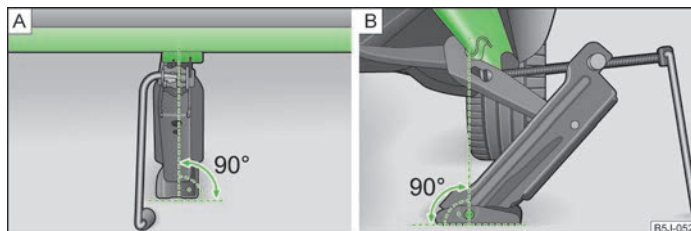

Fig. 135 Attach lifting jack
- Align the lifting jack so that its claw grasps the web » Fig. 135 - below the embossing in the side surface of the lower sill.
- Ensure that the entire surface of the lifting jack base plate rests on level ground and is located in a vertical position to the area » Fig. 135 where the claw grasps the web.